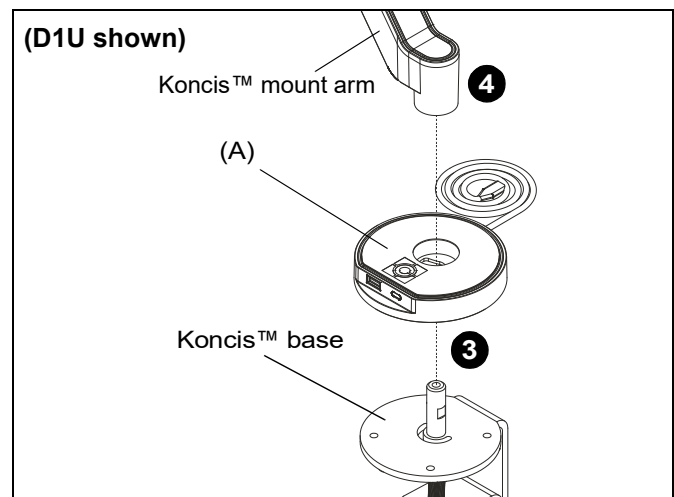

Figure 2
3. Install power base (A) to mount base by placing it over the pin of the mount base. (See Figure 2)
4. Place removed arm onto power base by placing it over the pin of the mount base. (See Figure 2)